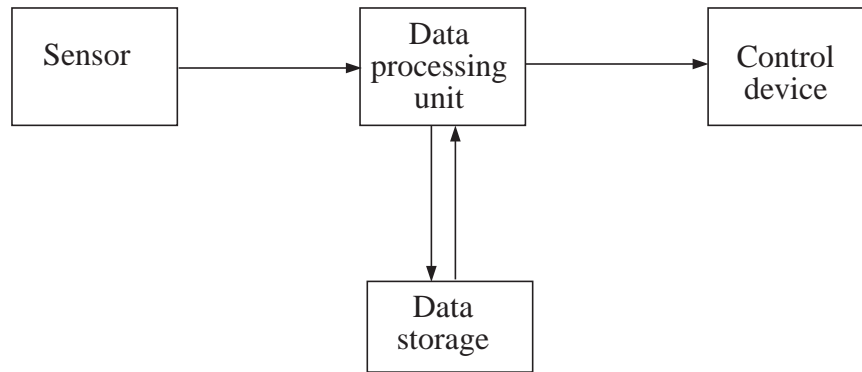

FIG. 15
- (b) The schematic diagram in Figure 15 shows the basic components of a computer control system.